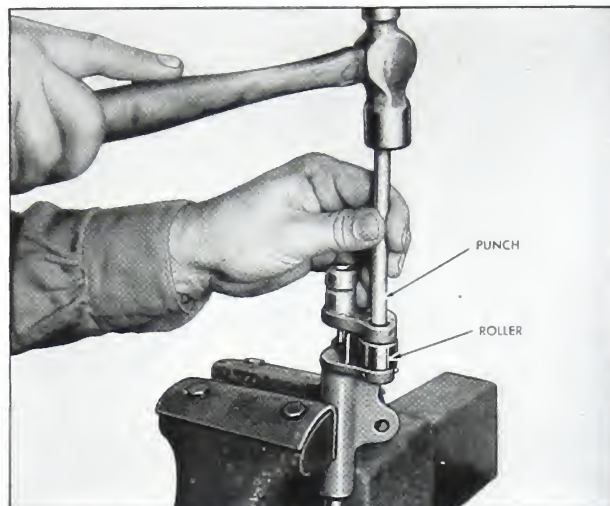

Fig. 5-44. Removing roller pin
6. Use a small brass rod to remove the roller pin as shown in Figure 5-44.